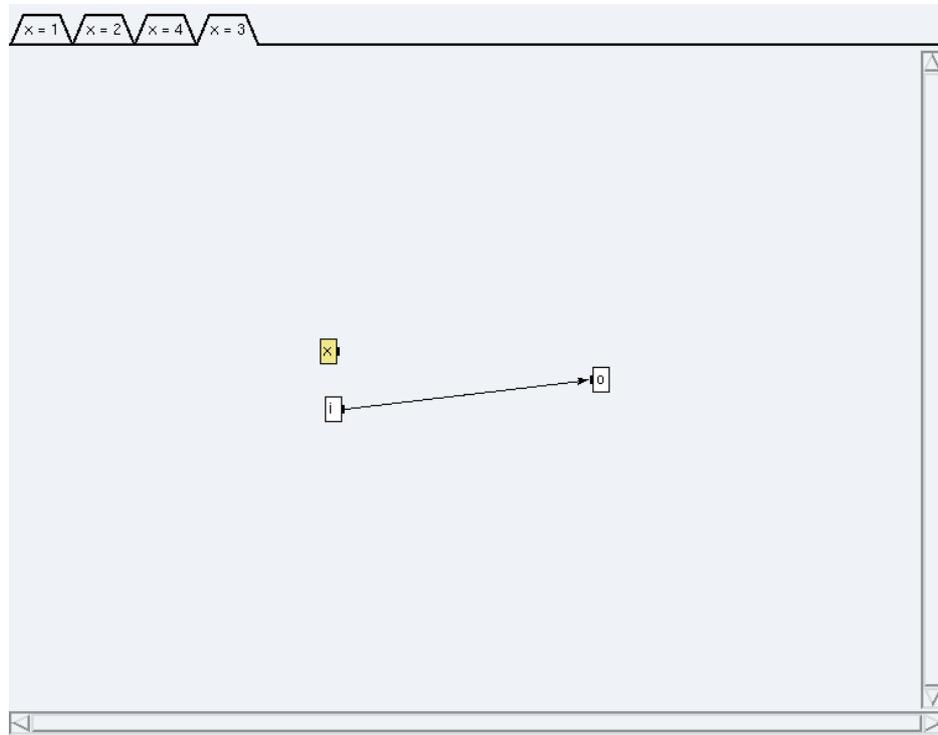

Figure 5.4: Condition x=3
- * click on the condition **x=3** (*cf.* figure 5.4) and connect the port `i` to the port `o`,